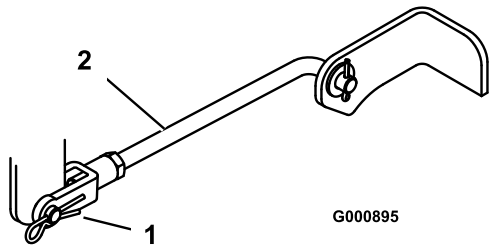

Figure 47
- Remove the hairpin cotter and clevis pin from the front trunnion yokes (Figure 47).
8. Attach the front trunnion rods to the tractor with the clevis pins and hairpin cotters (Figure 47).